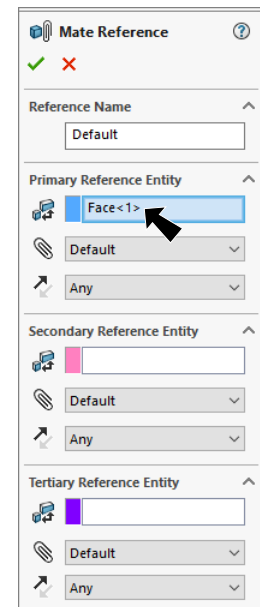

Fig. 13
Step 3. In the Mate Reference Property Manager click OK , **Fig. 13**.